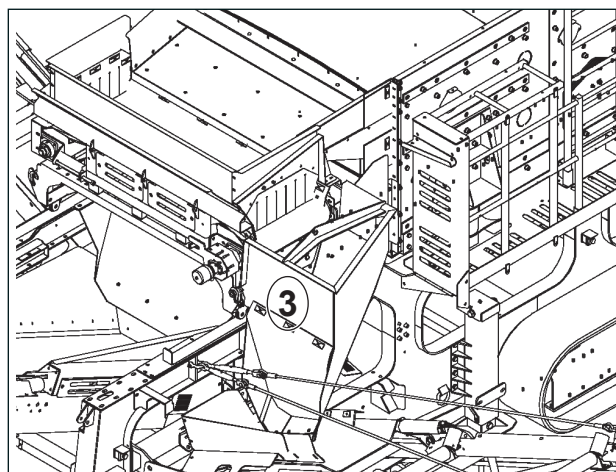

Figure 5.8 - Feedboot Extensions
5. Remove the feedboot extension (Item marked 3), Ref: Figure 5.8.